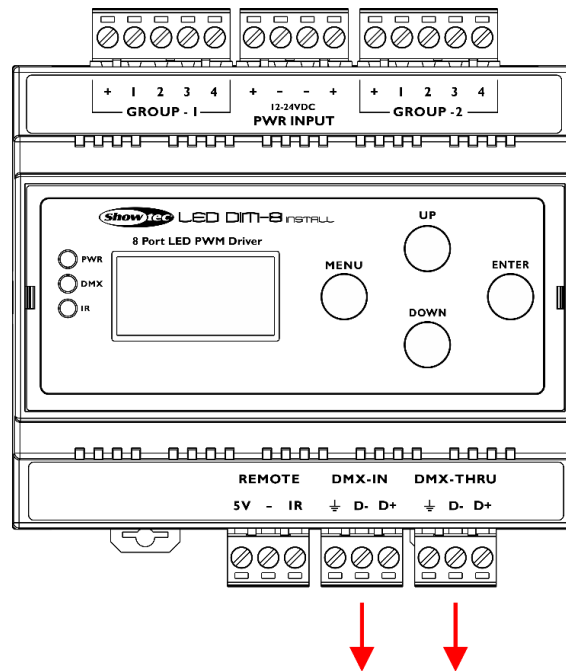

Fig. 09
- 01) Remove the **3-pin Phoenix terminal connector DMX THRU (05)** and the **3-pin Phoenix terminal connector DMX IN (06)** (see Fig. 09).